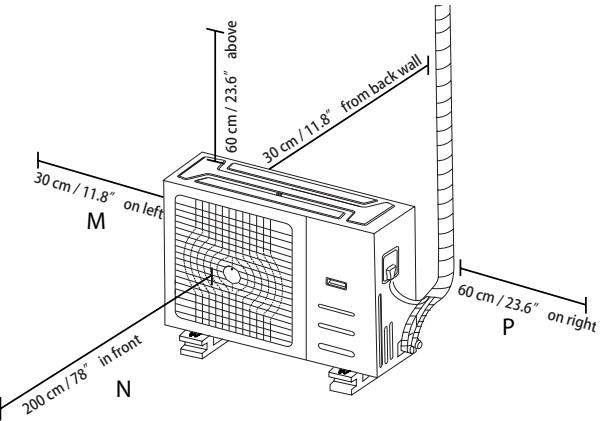

Fig. 5.7
**NOTE:** The minimum distance between the outdoor unit and walls described in the installation guide does not apply to airtight rooms. Be sure to keep the unit unobstructed in at least two of the three directions (M, N, P) (See Fig. 5.7)